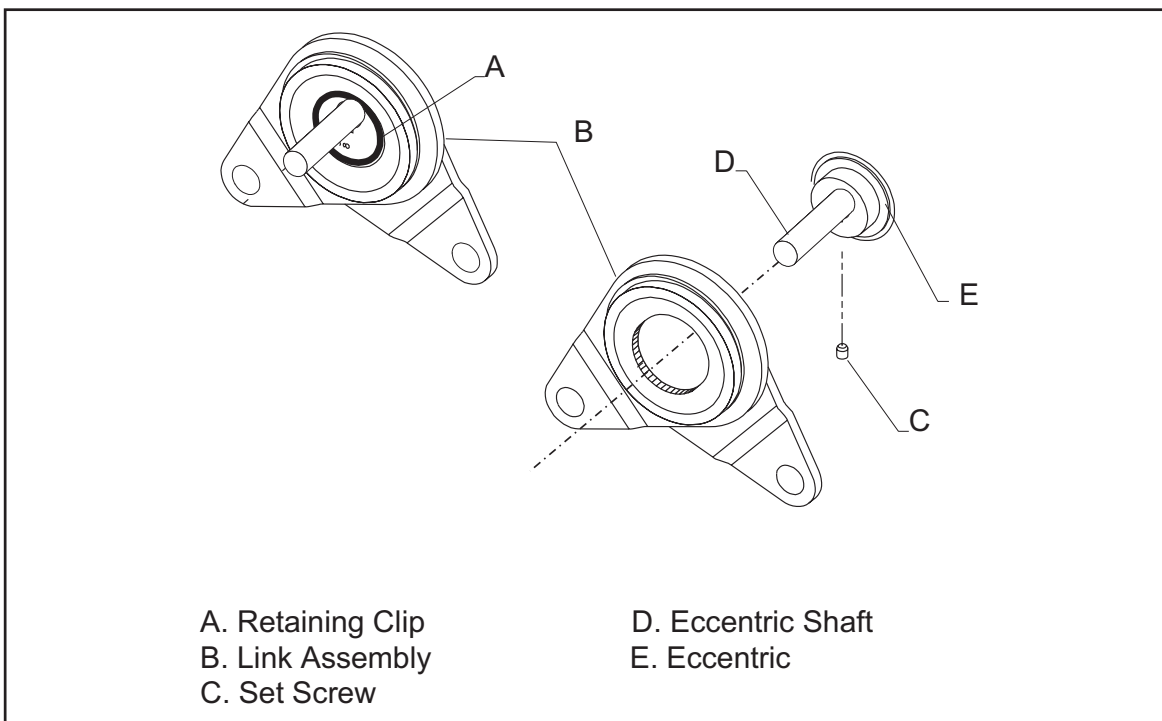

Figure 30. Replacing Eccentric
2. Remove retaining clip (Item A, Figure 30).
4. Loosen set screw in eccentric and remove eccentric shaft from eccentric. See Figure 30.
5. Install eccentric shaft in new eccentric and tighten set screw. See Figure 30.
7. Remove the two bolts securing the gear reducer to back of feeder frame. See Figure 30.